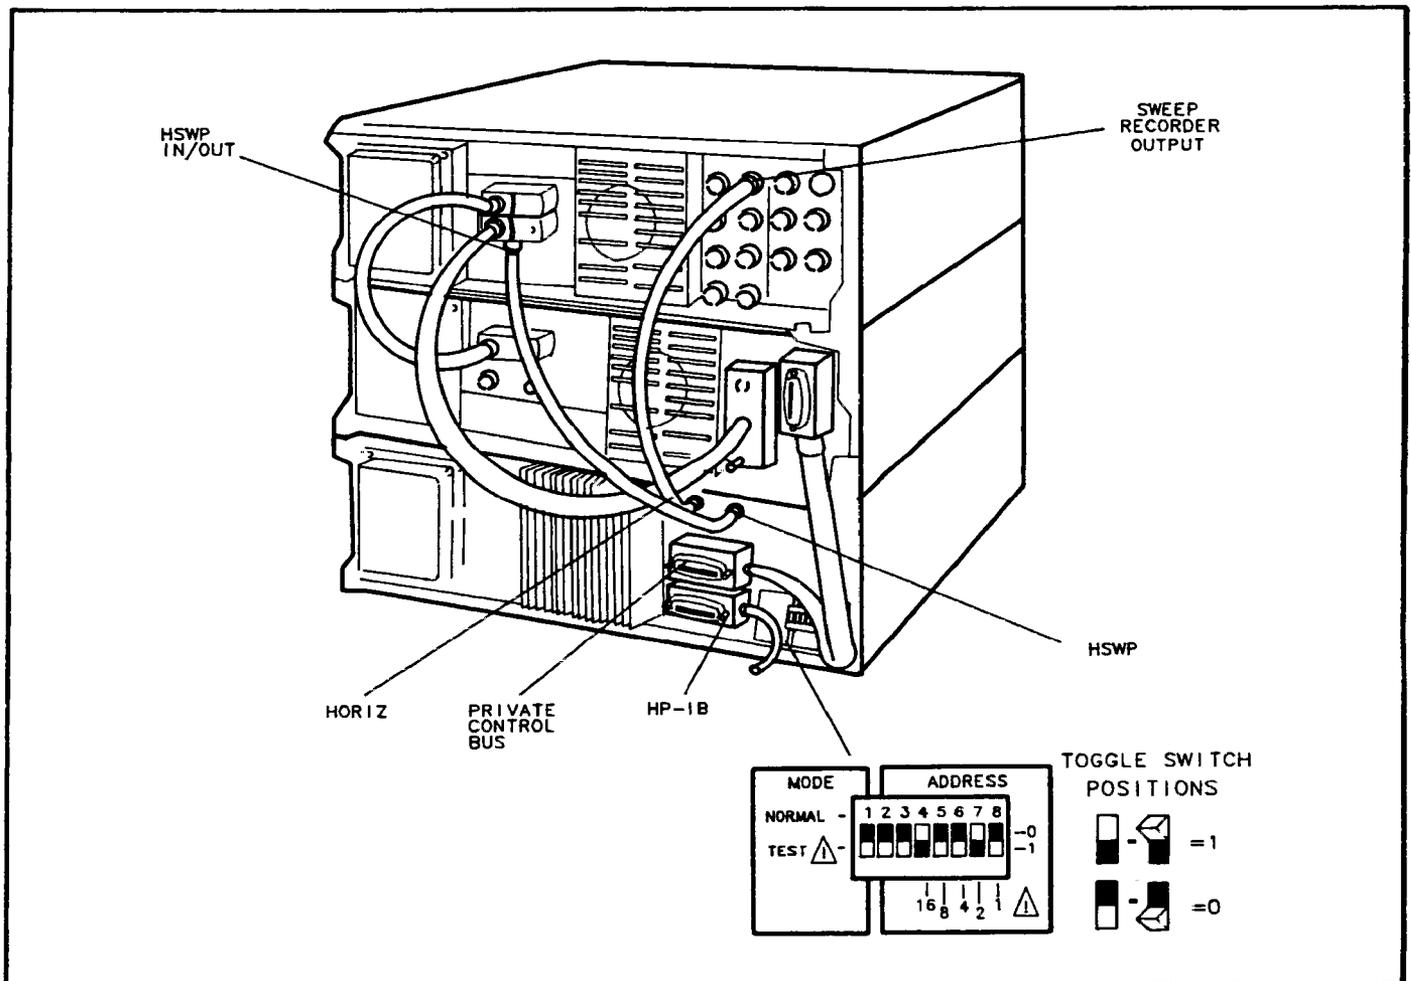

FIGURE 2-5. PRESELECTOR-SPECTRUM ANALYZER CONNECTIONS
For steps 7 - 10, refer to Figure 2-5
- 13 The preselector address is preset at the factory to 18 (see Figure 2-5). To activate the private control bus, be sure that the address switch on the preselector rear panel is set to 18, or some **even** address not greater than 30. Additional preselector address information is found in the **REMOTE OPERATION** section of this manual.